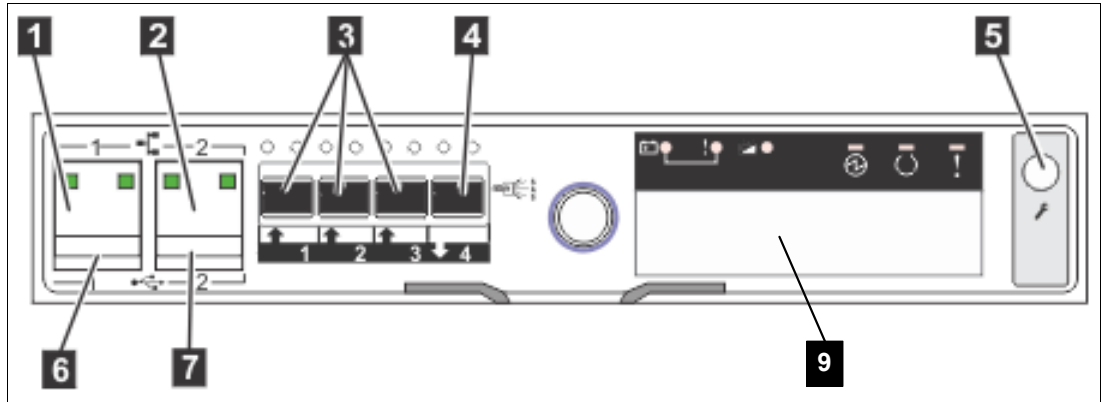

Figure 1-9 Storwize V3700 node ports
In Figure 1-9 you see additionally the different ports at the rear which are provided by the Storwize V3700 node canister.
The Storwize V3700 offers you the opportunity to select different host interface cards. For the position of the card see number “9” in Figure 1-9 on page 12.
The Storwize V3700 is delivered with 4 SAS (serial attached SCSI) ports. They are numbered 1 on the left to 4 on the right. The Storwize V3700 only uses port 4 (the extreme right one) to connect to the next optional expansion enclosure. See number “3” and “4” in Figure 1-9 on page 12.
The two 10 / 100 / 1000 Mbps ethernet ports shown in Figure 1-9 on page 12 number “1” and “2” are used for management. Port 1 (left port) has to be configure. The second port is optional to use for management. Furthermore, both ports can be used for iSCSI traffic. Refer to Chapter 4, “Host configuration” on page 135 for more information.
There are two USB ports numbered with “6” and ”7” in Figure 1-9 on page 12. One is used during the initial configuration or in case of problem. They are numbered 1 on the left and 2 on the right. For more details about usage refer to Chapter 2, “Initial configuration” on page 27.
**Service port:** Do *not* use the port marked with “5” in Figure 1-9 on page 12. This port is a service port only.